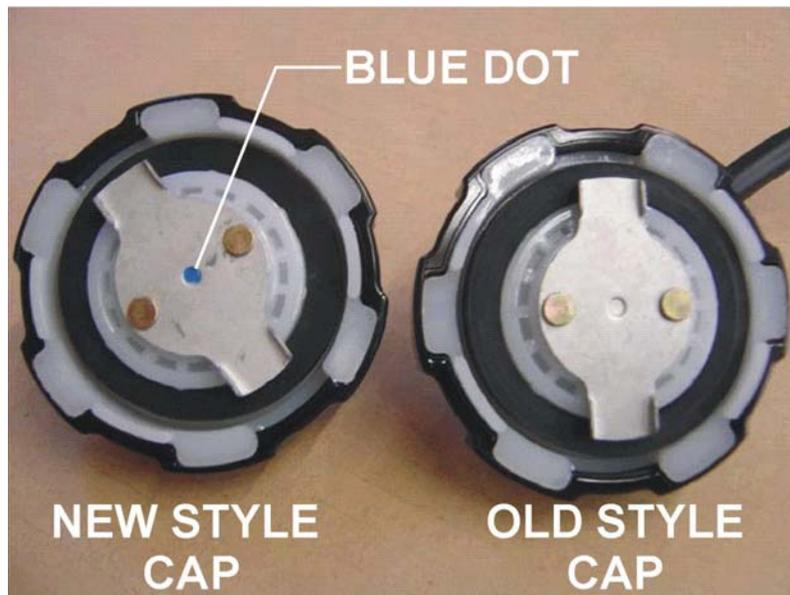

Figure 2. Fuel Cap Installation
3. Identify new fuel cap (Figure 2), blue dot on underside of fuel cap. Insert vent hose onto fuel cap vent inlet. Using pliers grip and squeeze the tabs on the retaining clamp and slide clamp upwards on the vent hose towards the fuel cap.